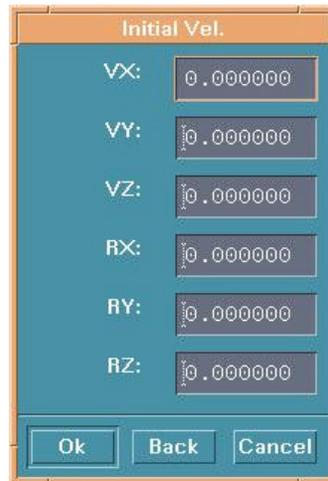

Figure 6.6.11 Velocity Define Table
- Enter the initial velocity in the INITIAL VELOCITY dialog window, Figure 6.6.11.